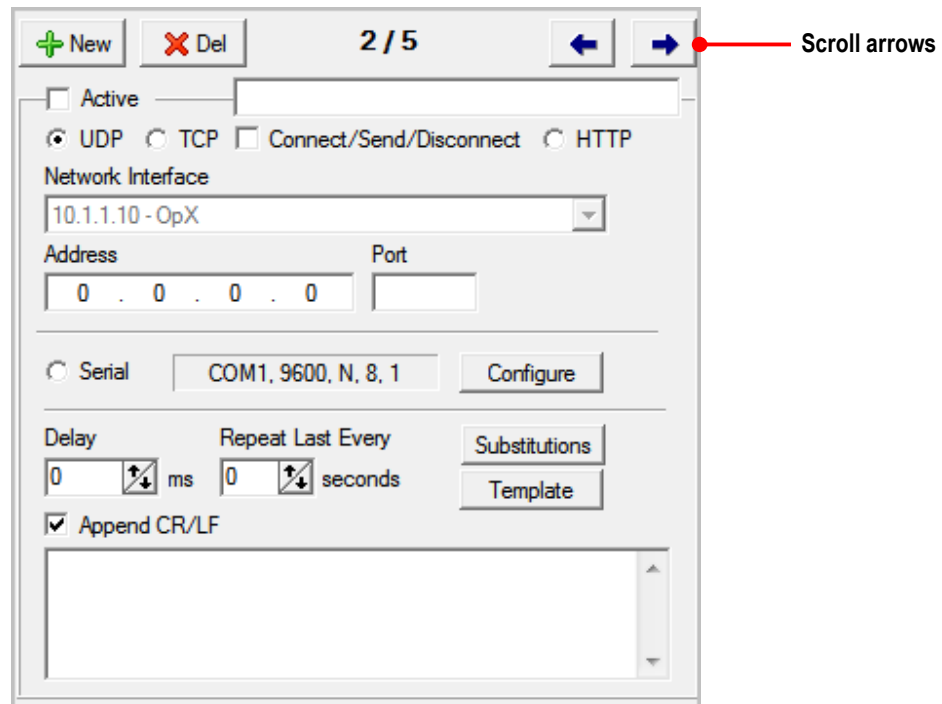

Figure 12-6. Scroll Arrows
2. On the right side of the OpX One Repeater window, use the scroll arrows to find the data repeater you want to edit (see Figure 12-6). The field to the left of the arrows shows the number for the current data repeater and the total number of data repeaters that have been set up (for example, **2/5** means the settings for data repeater number 2 is displayed out of 5 data repeaters that have been set up).
2. On the right side of the OpX One Repeater window, use the scroll arrows to find the data repeater you want to delete (see Figure 12-6).